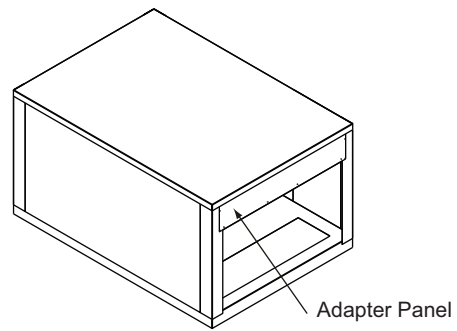

Fig. 45 — Secure Adapter Panel to Unit
6. Locate the adapter panel (provided if necessary). Position the adapter panel at the top of the return air access panel under the rooftop unit top panel. Secure the adapter panel to the rooftop unit using the supplied No. 10-16 x 1/2 screws as shown in Fig. 45.